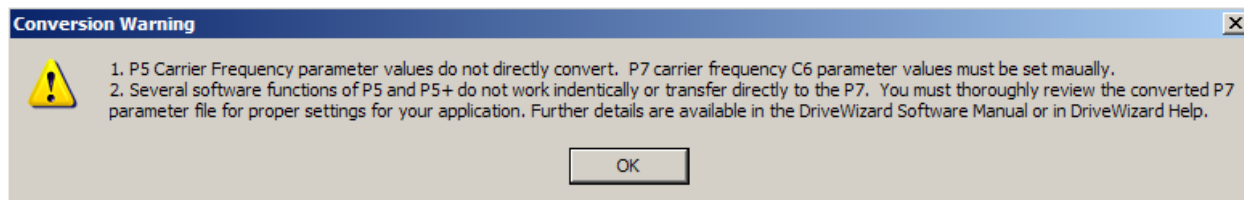

Figure 4.23: Conversion Warning
5. A warning window (Figure 4.23) will now appear reminding the user to set the carrier frequency and rating of the P7 manually (C6-01, C6-02, etc) . This is because the GPD505/506/P5 does not have the current rating and carrier frequency rules that the P7 has. Refer to the P7 drive manual TM.P7.02 programming page 29 for more detail. **Also, several of the functions in P5 do not directly convert to P7 so please check the converted file for the correct drive programming** (See appendix H for more detail). Click on **OK** to complete the file save process.